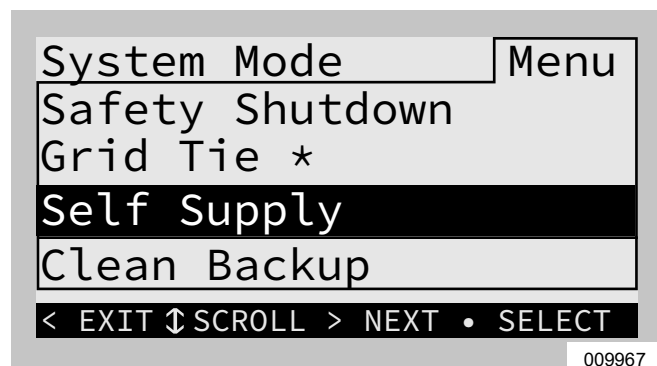

Figure 3-5. Selecting System Modes (3 of 5)
3. See Figure 3-5. Use the up and down arrows to highlight the desired mode and press the center button to select it.